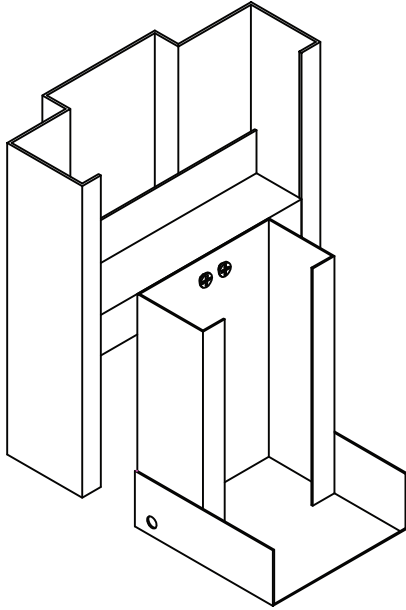

Figure 22 – Z Type weld in anchors steel studs
9.8 Square and nail top anchor to stud on ONE JAMB ONLY. Check plumb and square and continue to nail balance of anchors to stud. Repeat for opposite jamb. For steel studs install screws from back of stud into Z anchor (see Figure 22).